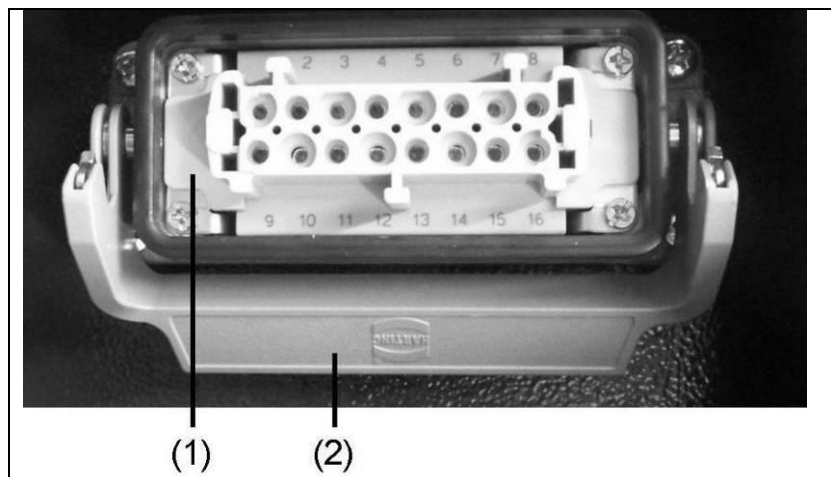

Fig. 5-6: Remote start device with Harting plug
1. Fold away any protective caps on the remote start socket after unlocking the clip (*Fig. 5-6(2)*).
2. Insert plug for the remote start operating status / generator connecting cable into the remote start socket (*Fig. 5-6(1)*) and secure with the clip (*Fig. 5-6 (2)*).